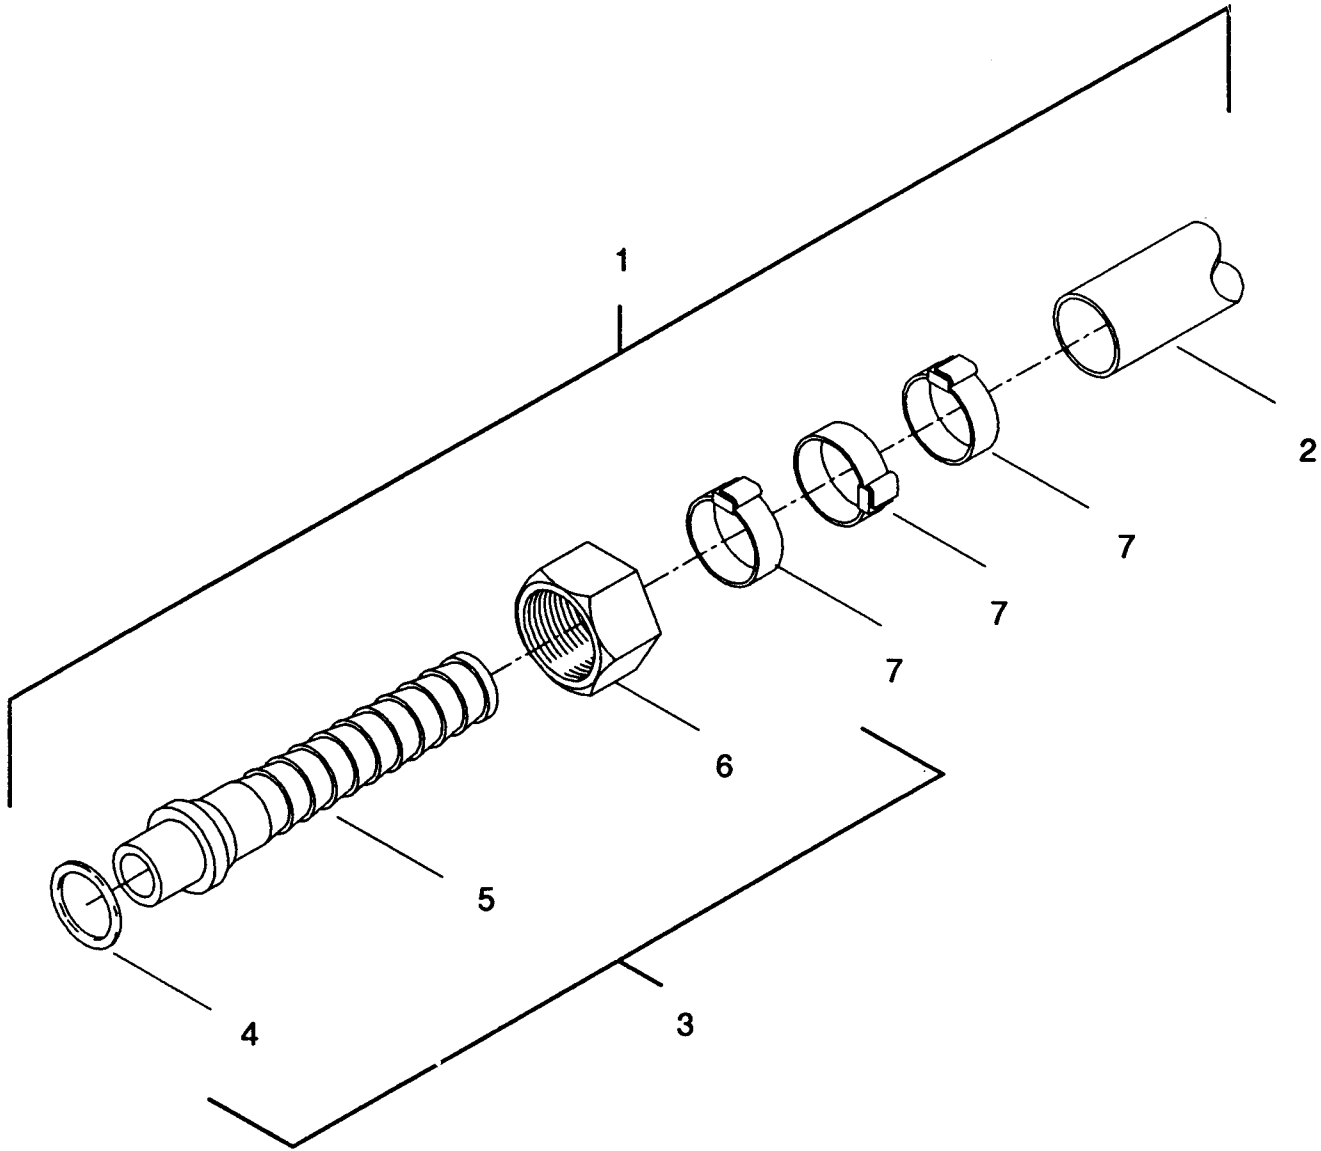

Figure 5-16. Low Pressure Hose Assembly (Item 1)
5-17. Low Pressure (LP) Hose Assembly. See Figure 5-16.